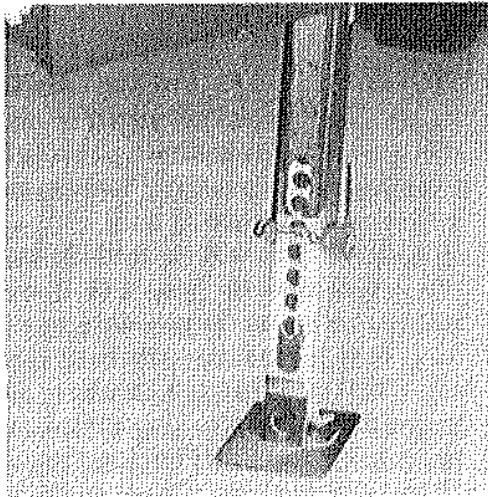

Fig. 4
4. Now release springloaded, self-storing stabilizer jacks. Base of this jack is welded to frame. Using 1 or both hands, grip jack and push toward center of camper approximately 5/8". It will require fair amount of effort to release and swing down as in Fig. 4. Now extend the jack "foot" by pushing it to the ground. More tension can be placed on the jack feet by using the long jack handle supplied in each unit. Be sure that not too much force is applied to the jack handle; it may cause the holes in the jack legs to expand by breaking out the dividers and cause adjustment problems in the entrance door. One notch should be sufficient. **DO NOT** place excessive weight on these jacks as they are intended to stabilize, not bear the weight of the camper. The camper should be level.